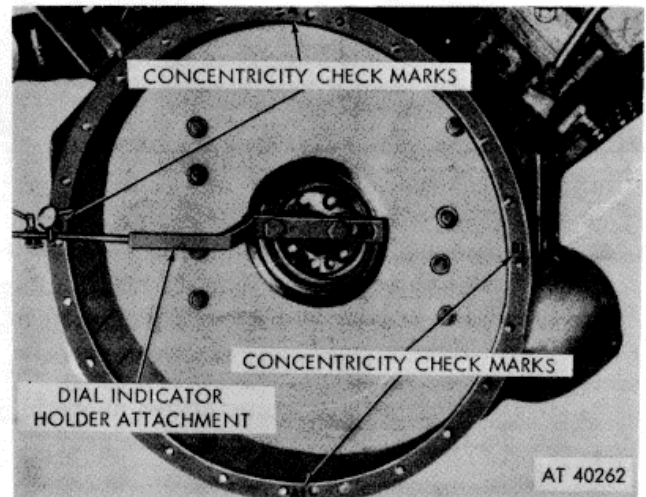

Figure 3-21. Flywheel housing concentricity check.
- d. Install dial gage and holder (34, fig. B-28) as shown in figure 3-21, and check crankshaft flange concentricity as follows:
- (1) Place chalk marks at position A, A', B, and B' as shown in (fig. 3-21).
- (2) Check reading at B and B'. Total runout is not to exceed 0.010 inch.
- (3) Check reading at A and A'. Total runout is not to exceed 0.010 inch.
- (4) If flywheel housing bore is not within limits, move as necessary to correct measurements.
- (1) Move dial gage-(fig. 3-21) and attachment to housing face.
- (2) Using a pinch bar wedged between a main bearing cap and crankshaft throw, take up crankshaft end clearance.
(3) Turn crankshaft and check at points A, A', B, and B' housing face (fig. 3-21).